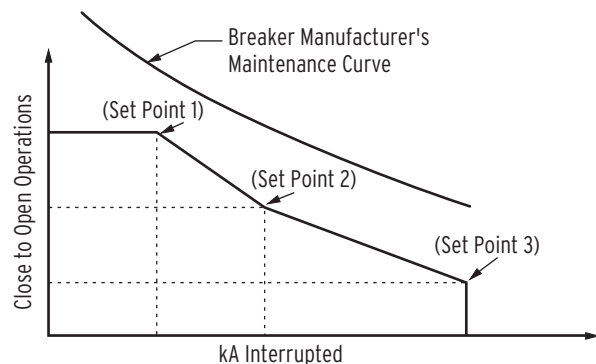

Figure 12 Breaker Contact Wear Curve and Settings
- Every time the breaker trips, the relay integrates interrupted current. When the result of this integration exceeds the threshold set by the breaker wear curve (*Figure 12*), the relay can alarm via an output contact or the optional front-panel display. With this information, you can schedule breaker maintenance in a timely, economical fashion.